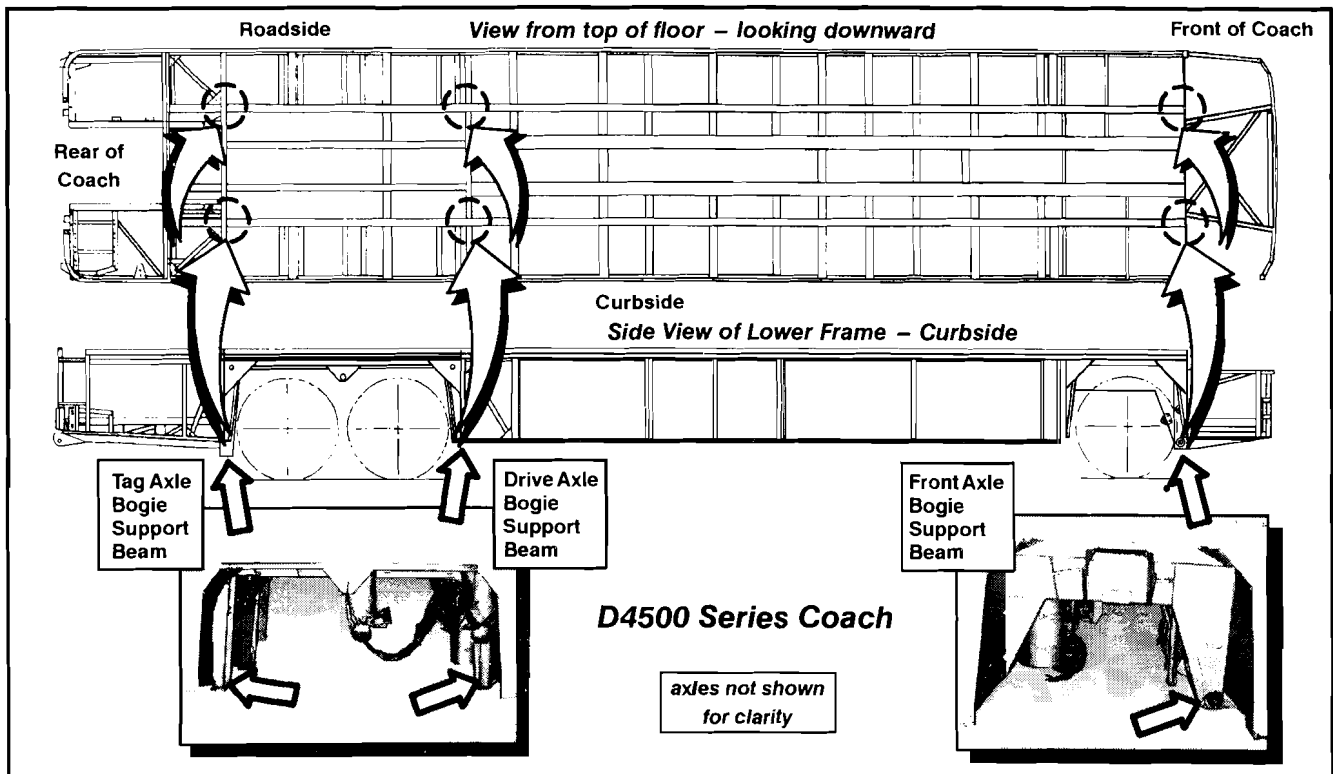

Figure 2. - D4500 Under Frame Jackstand Support Points
***Procedure Steps 11. to 17. are performed with the coach on a lift. Position jackstands at the front and rear frame support points, according to Figure 2, to ensure that the coach is securely supported before attempting work underneath the coach. Support the tag axle.***
Dump the air from the tag axle suspension and raise coach to desired height. Position jackstands at the front and rear frame support points, according to Figure 2, to ensure that the coach is securely supported before attempting work underneath the coach.